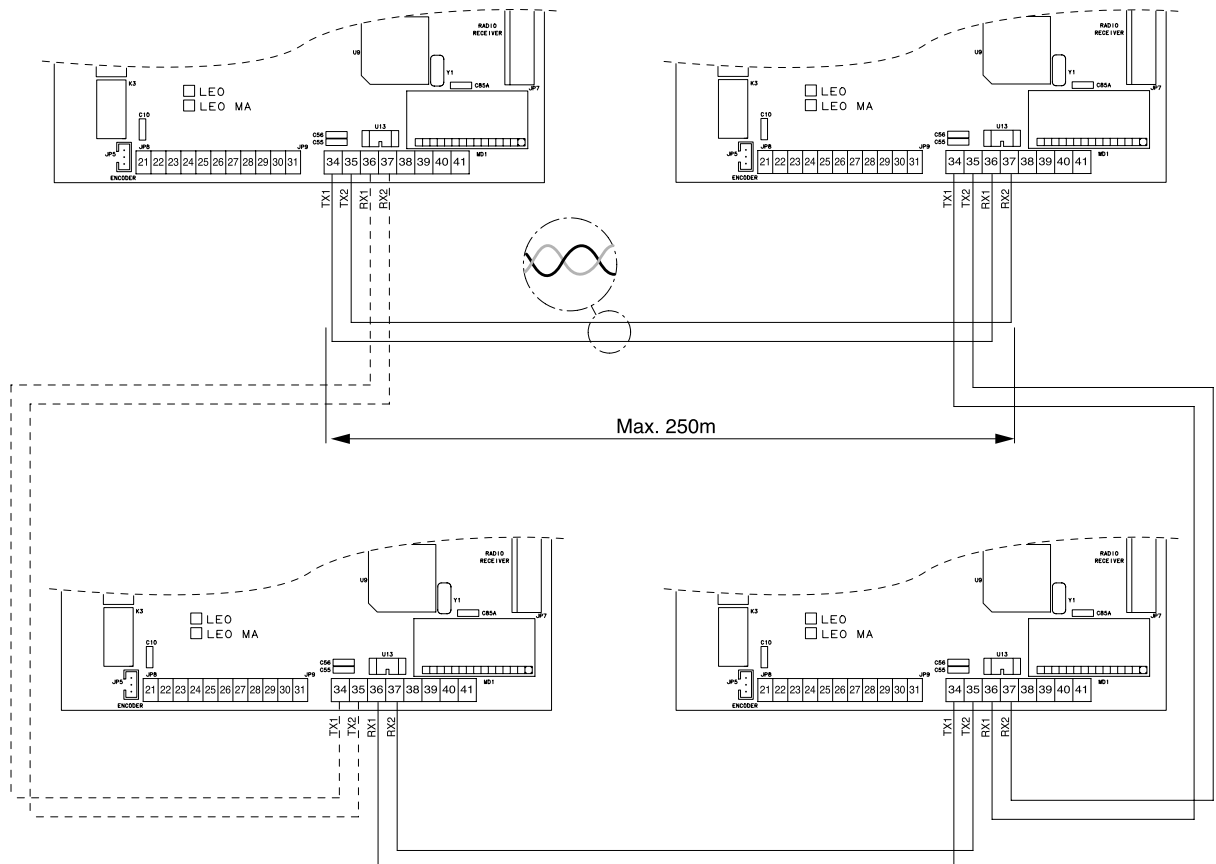

Fig. 6
7.1) Opposite sliding leaves (Fig. 6)